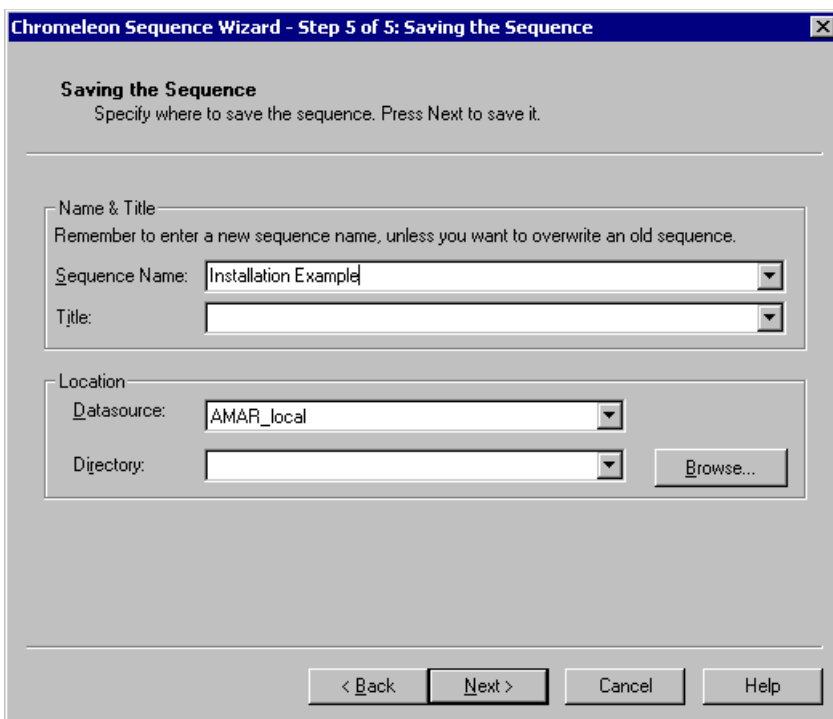

Figure 31. Example: Sequence Wizard Step 5
17. Enter a name for the sequence and a location (see the example in Figure 31).